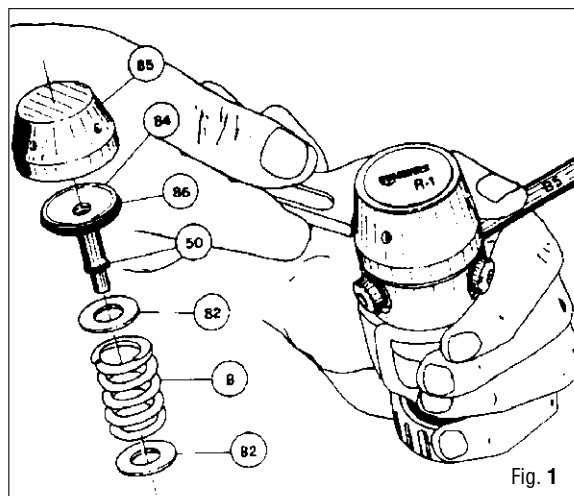
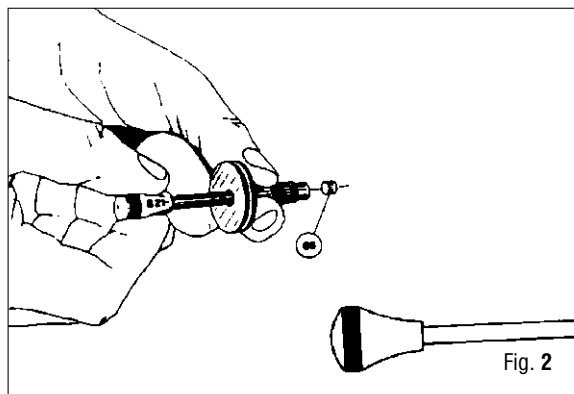

Fig. 1
Fig. 2
4. Remove the complete piston (84-88-86-50) from the cover (Fig.1).
5. Remove O-rings (86) and (50) from piston.
6. Remove the piston seat (86) with tool (B22) (Fig. 2).
6. Insert the piston seat (88) into the piston (84).
7. Place O-rings (50) and (86) onto piston
8. Place the complete piston (84-88-86-50) into the cover (85) (Fig. 1).